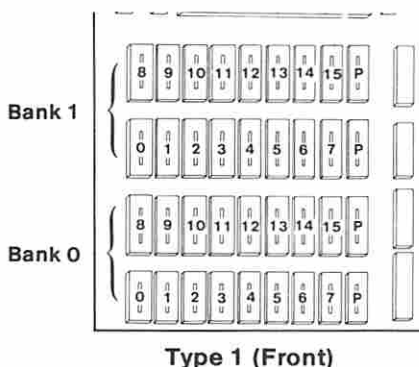

Figure 30. Parity-Check Error
- Find the first character of the error code (XXXXX) in Figure 30 on page 0200-38 and replace the memory modules indicated.